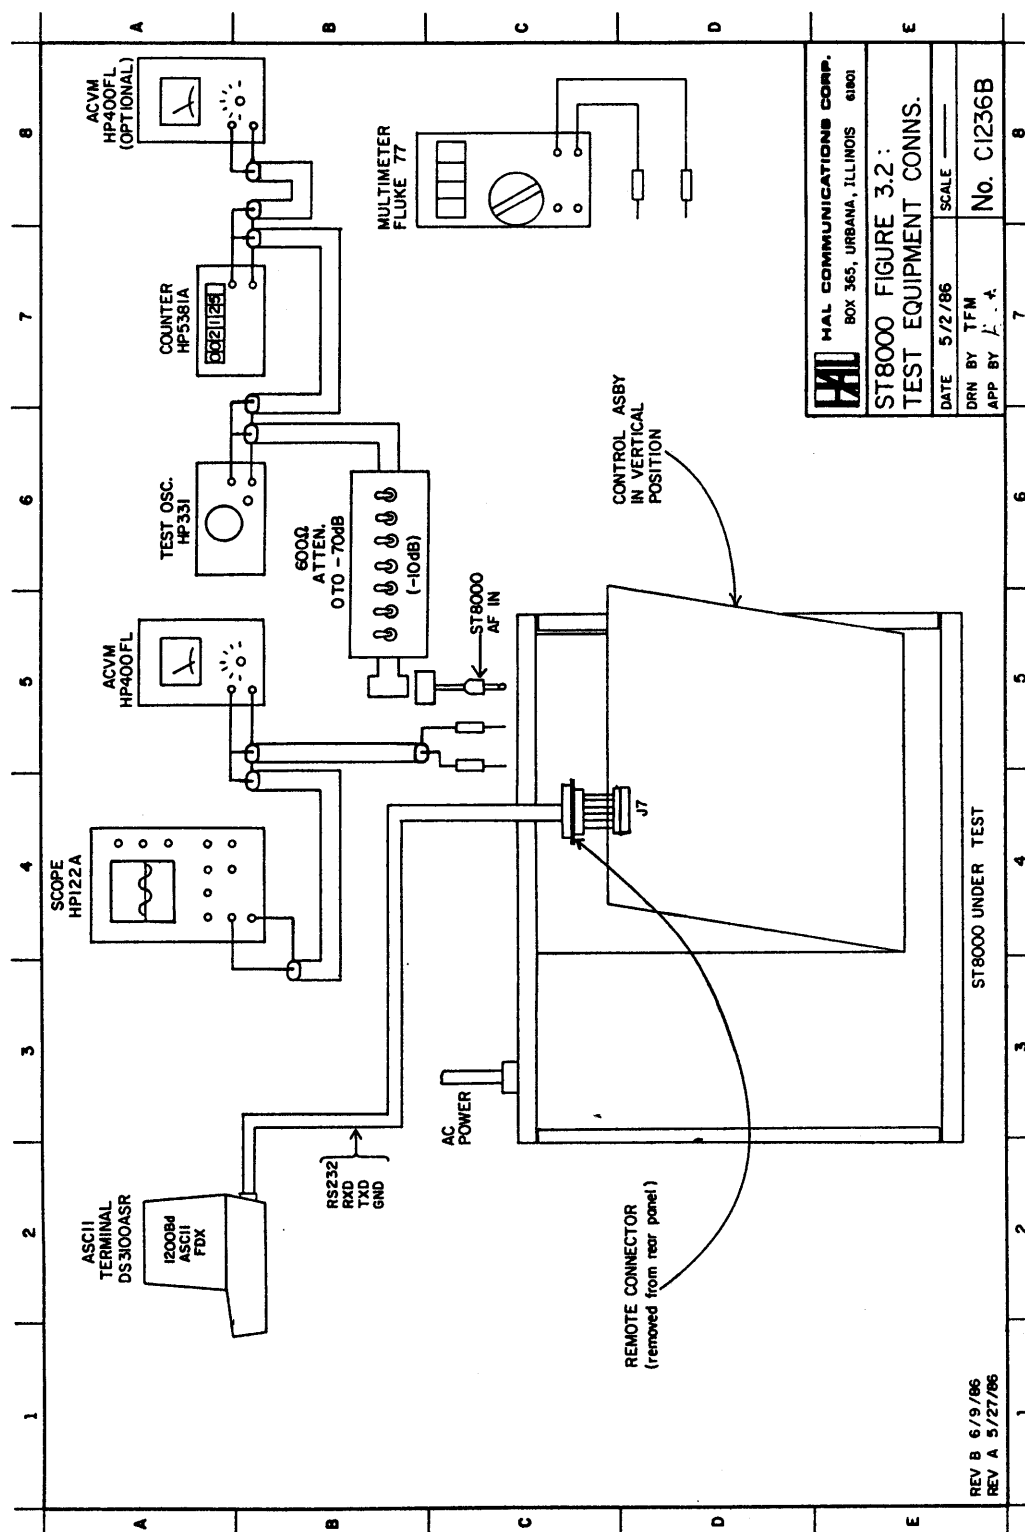

Figure 3.2 TEST EQUIPMENT CONNECTIONS
The REMOTE CONTROL port will be used to set-up test conditions. Therefore, temporarily remove the REMOTE connector from the ST8000 rear panel and plug it back into it's mating connector (J7) on the CONTROL board (See Figure 3.2). The REMOTE control terminal (DS3100) should be connected to the REMOTE DB25 connector and set for 1200 baud ASCII, FDX operation.
- (2) Refer to Figure 3.2 and connect the test equipment as shown.